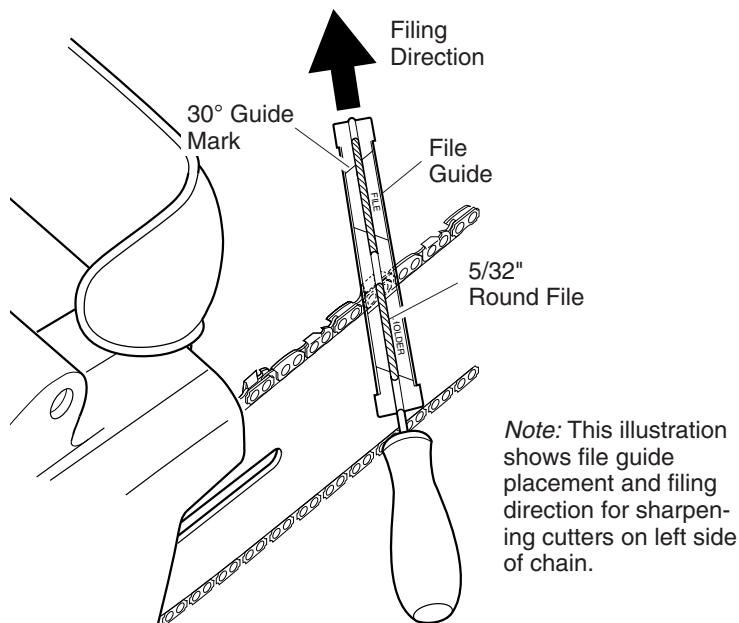

Figure 19 - File and File Guide Placement On Chain
3. Press 5/32" round file (attached to file guide) into groove between top plate and depth gauge on chain. File guide should rest on both top plate and depth gauge (see Figures 19 and 20). *Note:* File at midpoint of guide bar.
4. Hold file guide level. Make sure 30° mark on file guide is parallel to center of guide bar (see Figure 19). This will insure that you file cutters at 30° angle.
5. File from inside towards outside of cutter until sharp. Only file in this one direction (see Figure 19). *Note:* Two or three strokes with file should sharpen cutter.